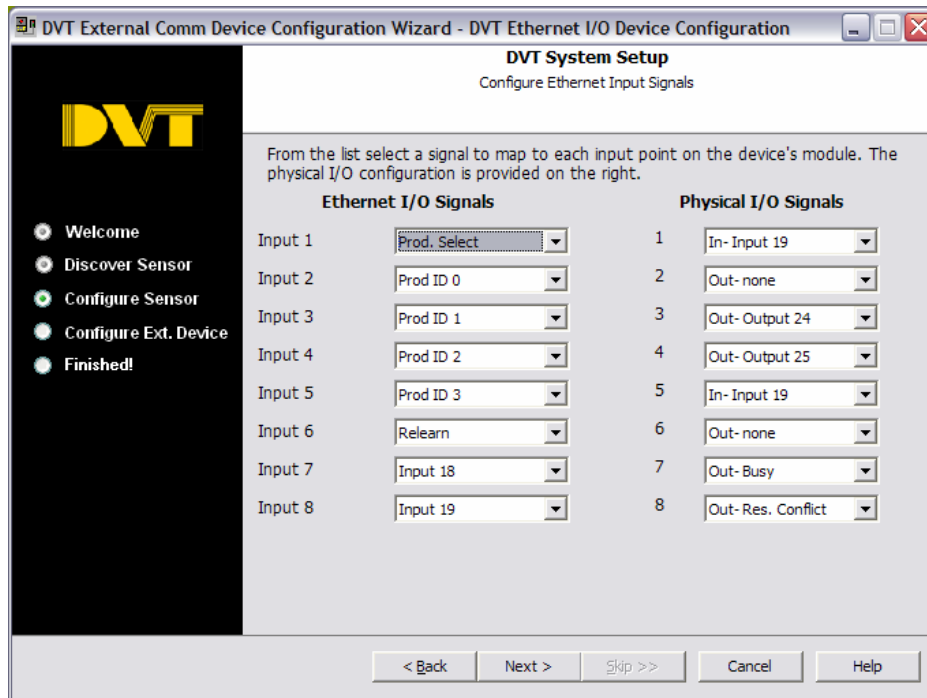

Fig. 6
- The next screen contains the Input assignments. See Fig. 6